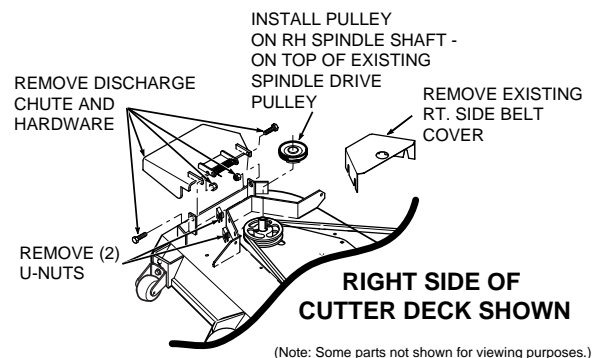

FIGURE 5-1
2. Remove the discharge chute from the cutter deck. See Figure 5-1.
- Remove the right side belt cover to gain access to the spindle assembly. Remove the two front u-nuts from the cutter deck bracket. See Figure 5-1, Page 9.
- Install the grass catcher pulley onto the spindle assembly. Apply loctite to both pulley setscrews and tighten. See Figure 5-1.